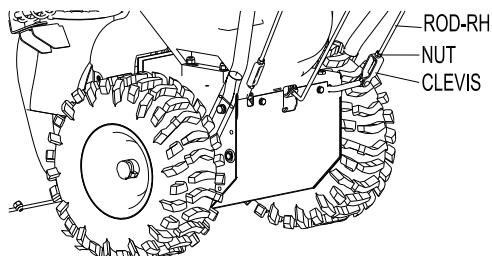

FIG 5
**2.4.1** Place rod through slot on the RH side of the upper handle and thread it into the clevis that is located on the right hand side of engine deck. (FIG 5)